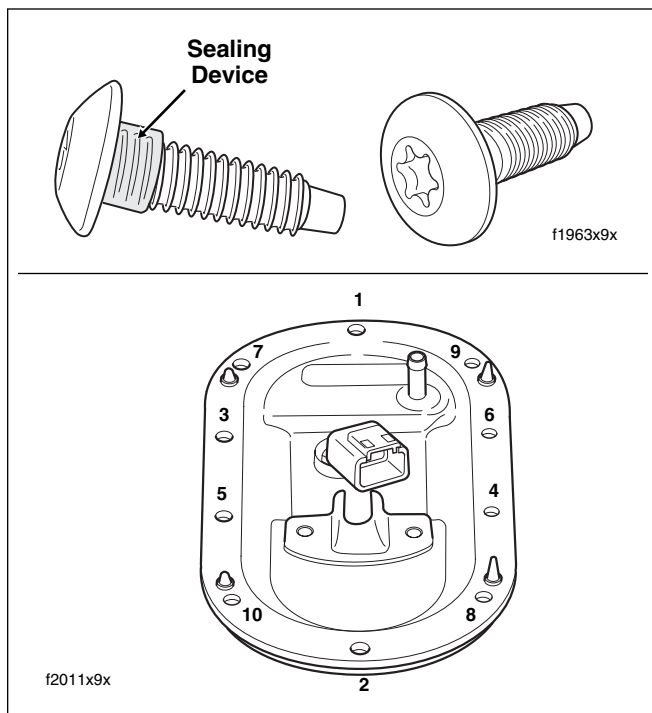

Figure 9-16. Canopy Sealing Screws and Torque Sequence
Check canopy screws for proper sealing devices. Screws must have a bonded seal on underside of head. Replace screws if seal is missing or damaged. See Figure 9-16.
5. While pushing down on the canopy, align holes in canopy with those in fuel tank. Hand start ten **new** T20 TORX screws in perimeter of canopy. Tighten screws to **18-24 in-lbs** (2.0-2.7 Nm) using the pattern shown in Figure 9-16.
5. While pushing down on the canopy, align holes in canopy with those in fuel tank. Hand start ten **new** T20 TORX screws in perimeter of canopy. Tighten screws to 18-24 **in-lbs** (2.0-2.7 Nm) using the pattern shown in Figure 9-16.